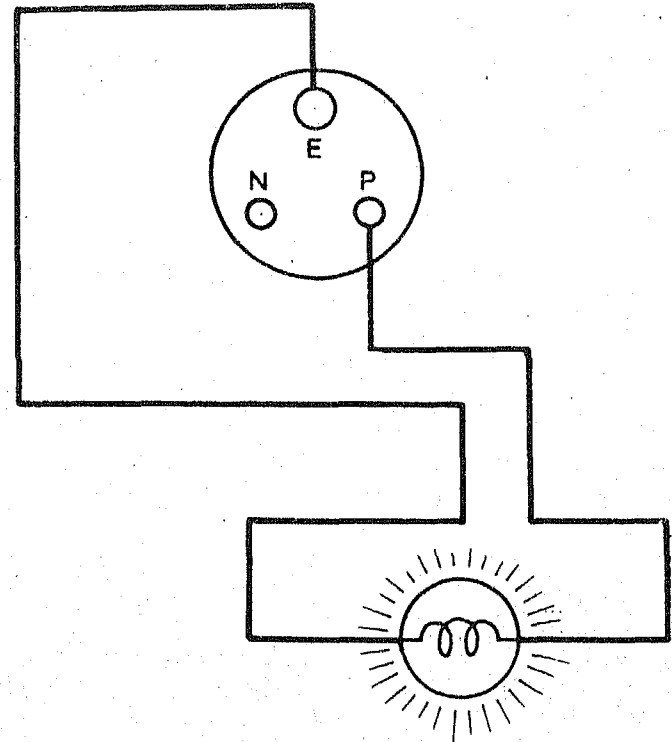

Fig.9.4 Earth Connection Test
- (ii) For checking the earth connection at 3-pin socket, make the connections as shown in Fig. 9.4. The glow shows that the earth connection at 3-pin socket is alright.